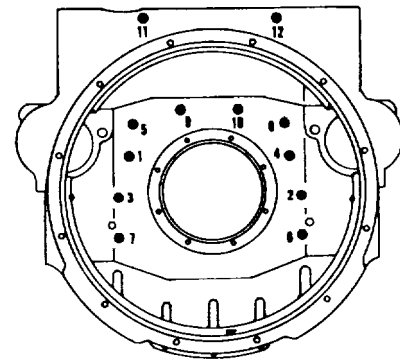

Figure 16N-44. Tighten the Flywheel Housing
8. Starting with the side capscrews securing the buttress end of the adapter to the flywheel housing, tighten the capscrews, Figure 16N-45, alternately and evenly to the values listed in Step 11 following. See "B," Figure 16N-45.
10. Tighten the pan adapter-to-block capscrews in the sequence shown in "A," Figure 16N-45.